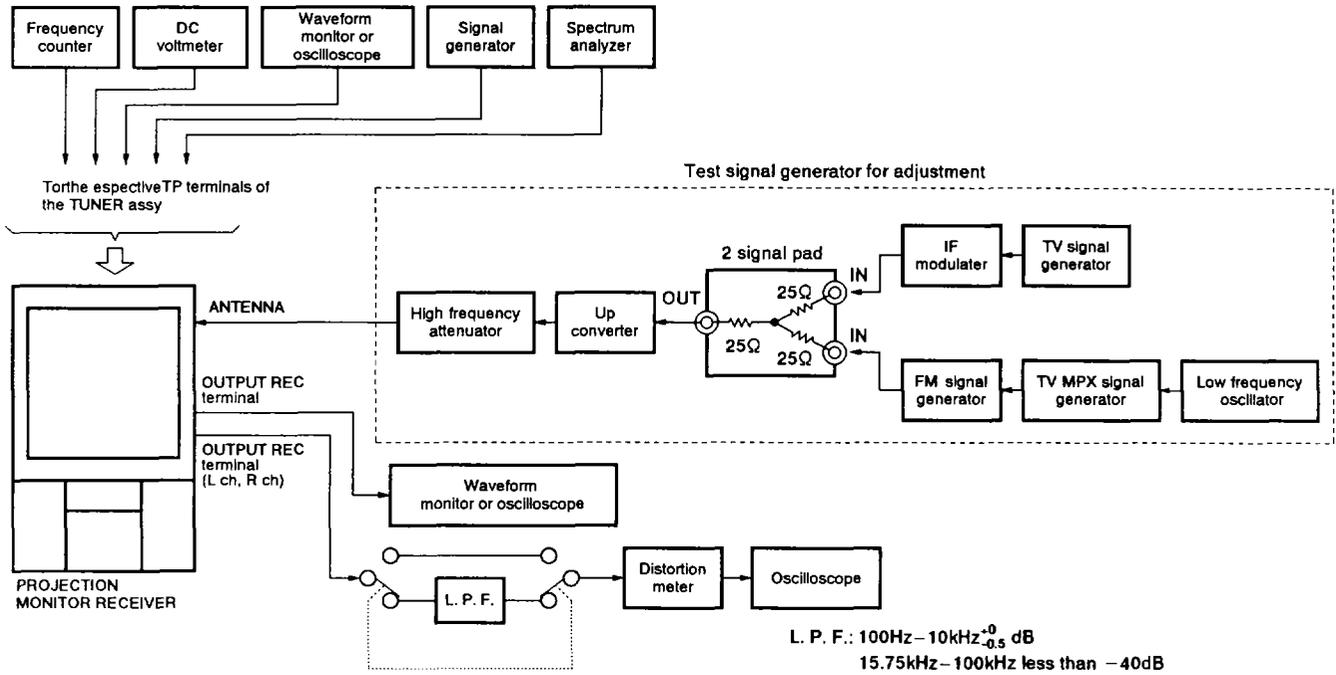

Fig. 7-10 Connection diagram when adjusting the tuner section
- Connection diagram is referred to Fig. 7-10.